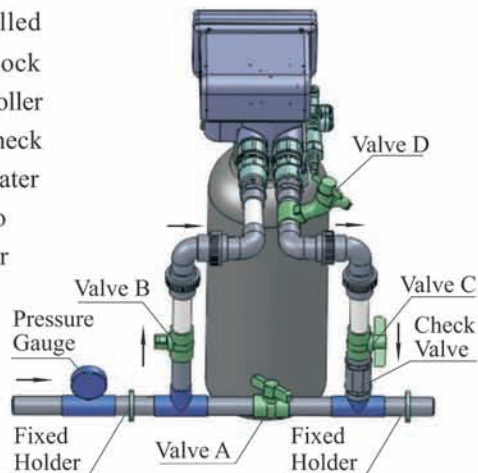

Figure1-3
④ Pipeline connection
a. As Figure 1-3 shows, install a pressure gauge in water inlet.